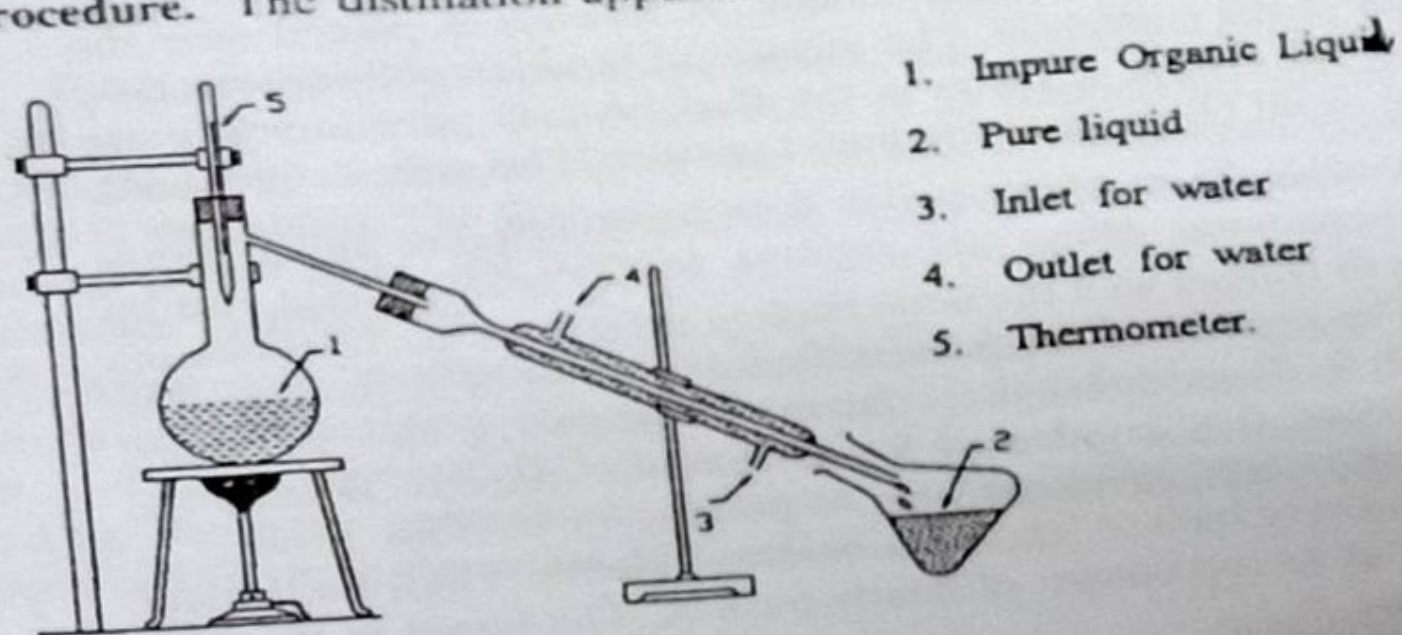

Fig. 4.5
**Procedure.** The distillation apparatus is shown in fig 4.5.